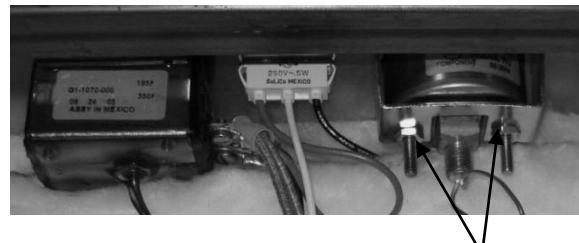

Fig. 14
5. Remove the retaining nuts that hold the thermometer to the housing located on the back of the control panel. (Fig. 14)